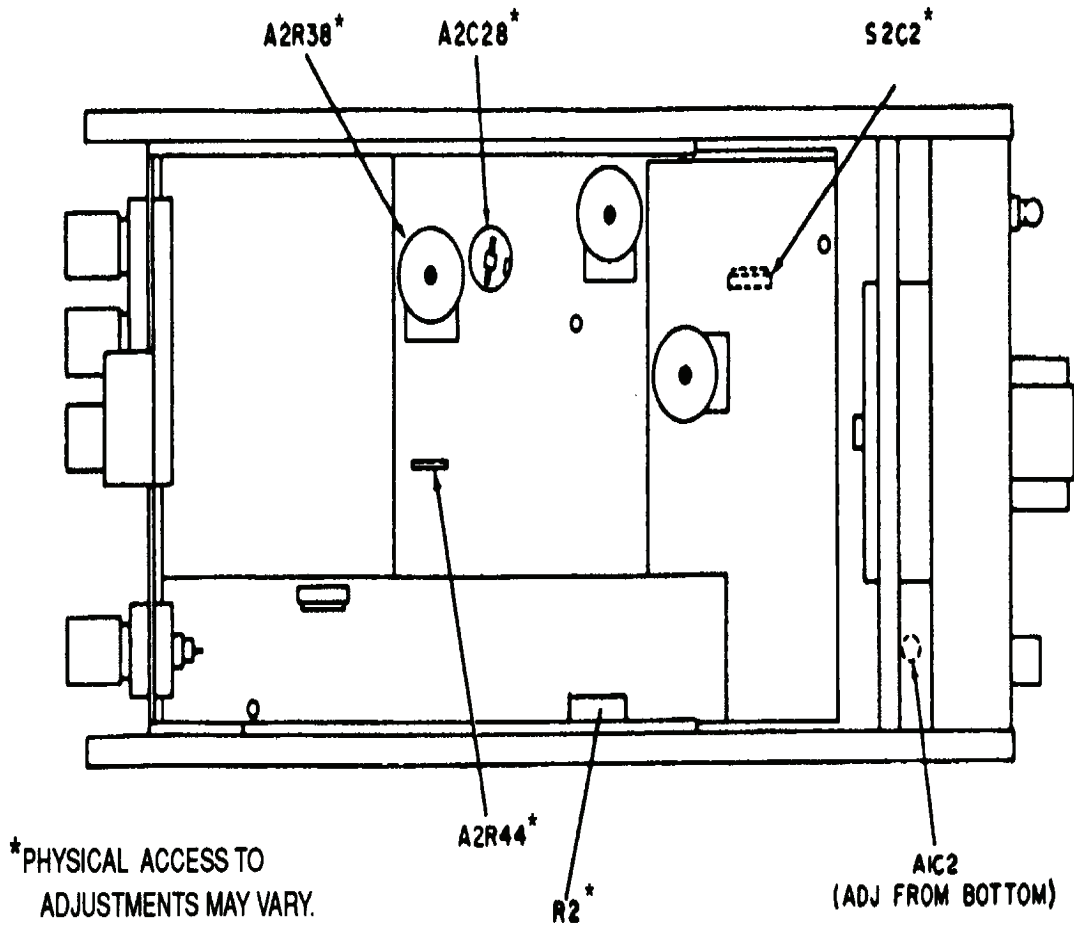

Figure 1. Test instrument (top view) - adjustment locations.
(1) Connect calibrator **OUTPUT** terminals to TI **INPUT** terminal and digital multimeter **INPUT** to TI rear panel **DC OUTPUT** terminals.
(2) Set **RANGE** switch to **.01 VOLTS** and set calibrator for a 10 mV, 1.0 kHz output. If digital multimeter does not indicate between .9950 and 1.0050 V dc, perform **b** below.
b. Adjustments. Adjust R2 (fig. 1) for a 1.0000 V indication on digital multimeter (R).